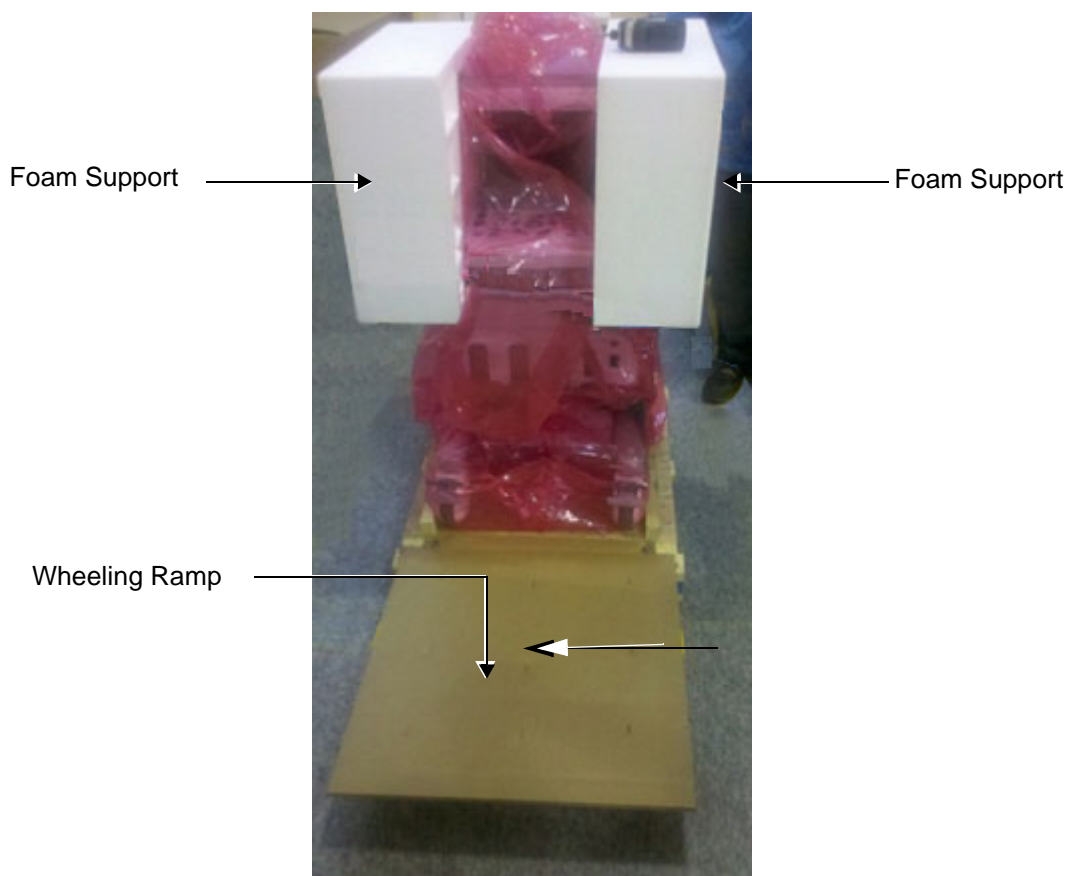

Figure 3-6 Wheeling Ramp in Unloading Position for Scanner Removal
6.) Lower the wheeling ramp into the unloading position, as shown in Figure 3-6 on page 3-10.
- 8.) Remove the two screws that secure the console holder, then remove the holder (Figure 3-6).